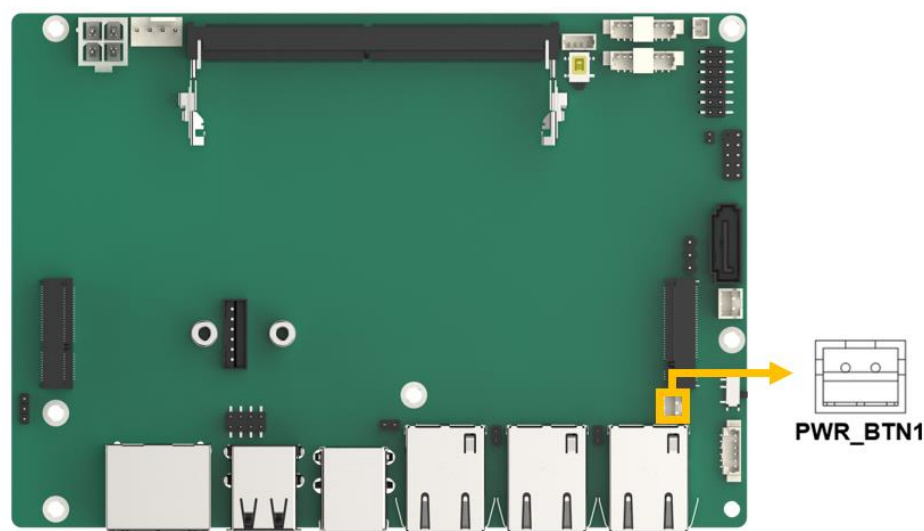

Figure 4-19: Power Button Connector Location
- CN Location: See Figure 4-19